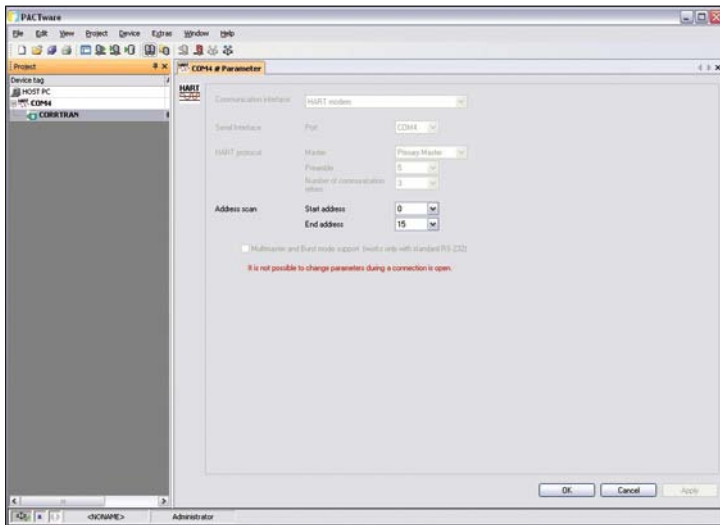

Figure 31. CorrTran MV Connected to PACTware
- Right click and select 'Connect' from the toolbar. Wait several seconds and the COM Parameter tab will display a '#' symbol, and a green check mark will appear in the bottom left indicating that the CorrTran MV has established communication with PACTware, as seen in Figure 31.